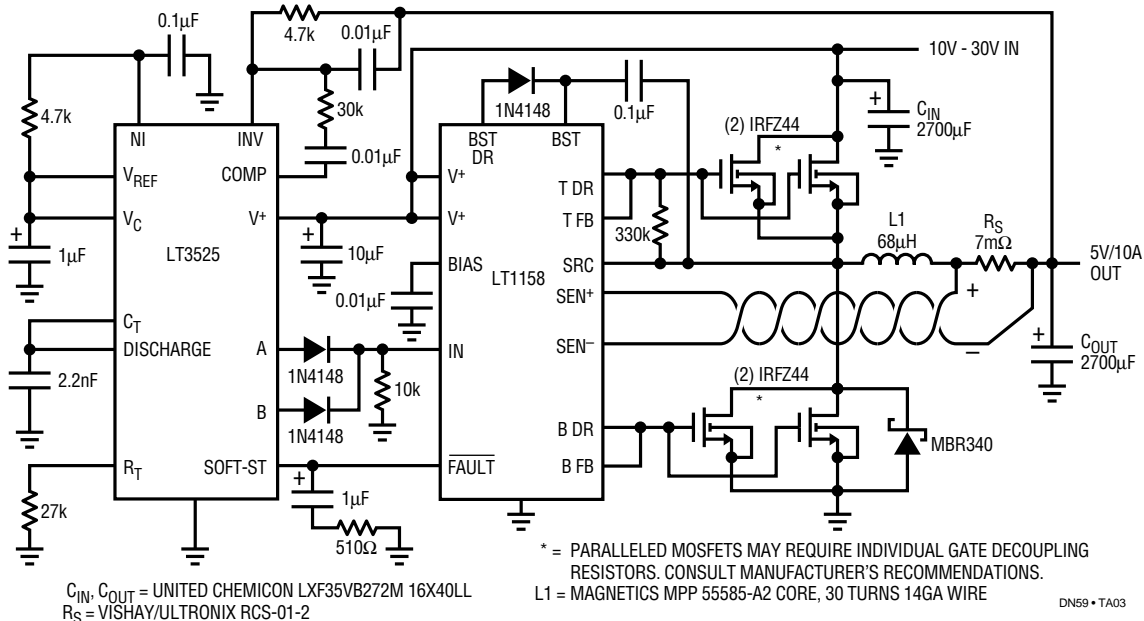

Figure 3. High Efficiency 50W DC-to-DC Converter
In the Figure 3 circuit an LT3525 provides a voltage mode PWM to drive the LT1158 input pin. The LT1158
drives (2) 28mΩ power MOSFETs for each switch, reducing individual device dissipation to 0.7W worst case. This eliminates the need for heatsinks for operation up to 10A at a temperature of 50°C ambient. The inductor and current shunt losses for the Figure 3 circuit are 1.2W and 0.7W respectively at 10A.
An additional loss potentially larger than those already mentioned results from the gate charge being delivered to multiple large MOSFETs at the switching frequency. This driver loss can only be controlled by running the oscillator at as low a frequency as practical — in the case of the Figure 3 circuit, 25kHz. A very low ESR (<20mΩ) output capacitor is used to limit output ripple to less than 50mVp-p with 2.5Ap-p ripple current.
The LT1158 also provides current limit for DC-to-DC converter applications. When the voltage across R_S exceeds 110mV, the LT1158 fault pin conducts, and assumes control of the PWM duty cycle. This provides true current mode short circuit protection with soft recovery. The Figure 3 regulator current limit is set at 15A which raises the dissipation in each bottom MOSFET to 1.7W during a short. Therefore 30°C/W heatsinking must be added for the bottom side MOSFETs if continuous short circuit operation is required. Care should also be taken when routing the sense+ and sense- leads to prevent coupling from the inductor.